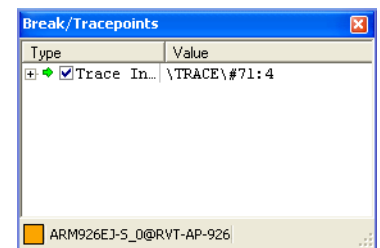

Figure 10-34 Break/Tracepoints view showing a tracepoint
- a. Select **Break/Tracepoints** from the **View** menu to display the Break/Tracepoints view. Figure 10-34 shows an example: